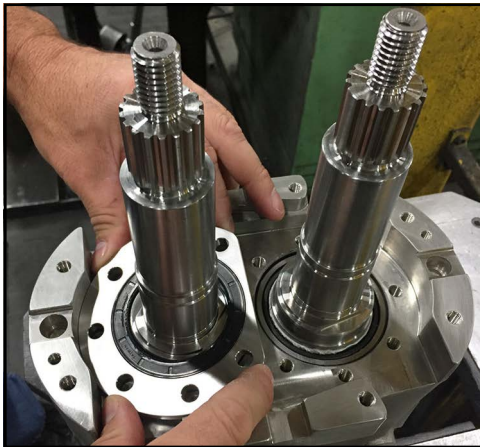

Figure 265 - Remove bearing retainer
4. Remove the bearing retainers as shown in Figure 265.